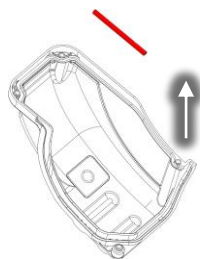

Figure 1 – Mains Cover "D" Seal Removal
3. Remove the "D" seal from the cover. Refer to Figure 1 (Mains Cover "D" Seal Removal).